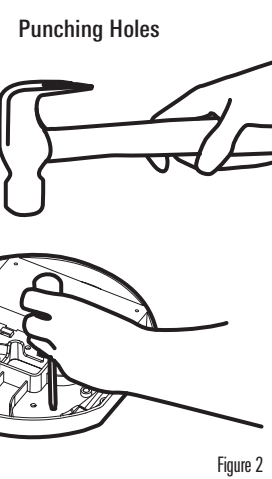

Figure 2
1. Turn the base upside down. Punch out the mounting holes labeled "C" with a hammer and a screwdriver (or an awl) as shown in Figure 2.